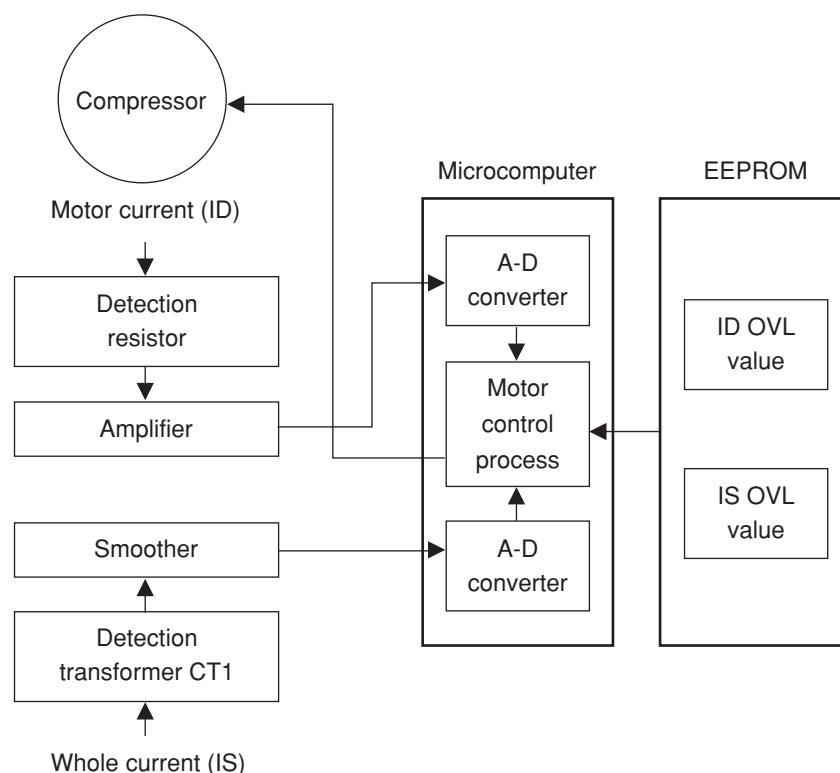
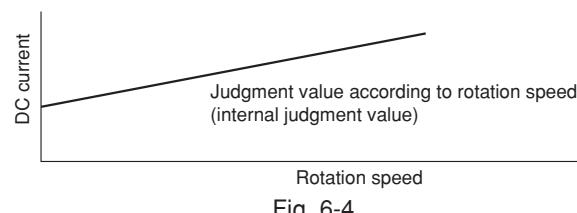

Fig. 6-1 Overload Control System
Fig. 6-4
Fig.6-1 shows the overload control system configuration and Fig. 6-4 is a characteristic diagram on overload judgement values. There are two types of control which has named IS OVL and ID OVL. IS OVL is limiting the whole input of this room air conditioner system through the current sensor CT1 in order to keep the maximum rating of components by reading total operating current.
Fig. 6-4 shows the rotation speed control. When the voltage at pin ⑩ of the microcomputer exceeds the set value, the microcomputer decreases the rotation speed of the compressor and reduces the load.